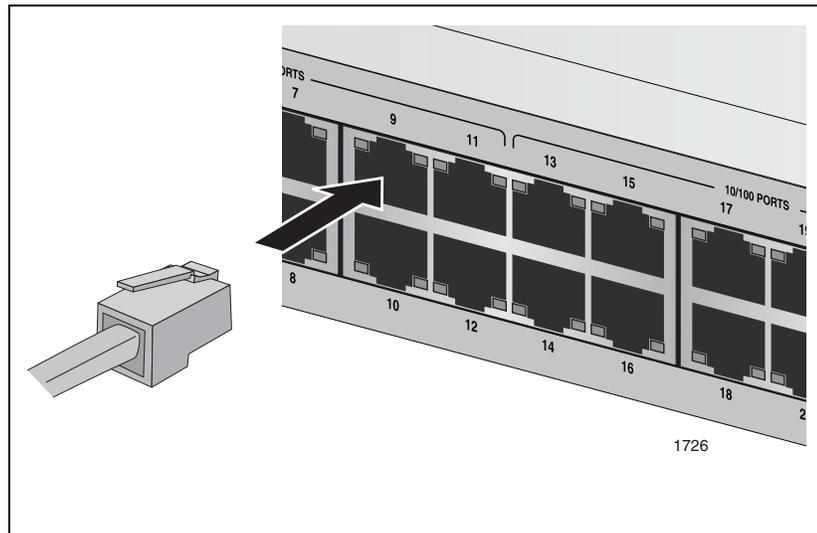

Figure 16. Connecting the Twisted Pair Data Cables
1. Plug the twisted pair data cables to the RJ-45 ports on the switch, as shown in Figure 16.